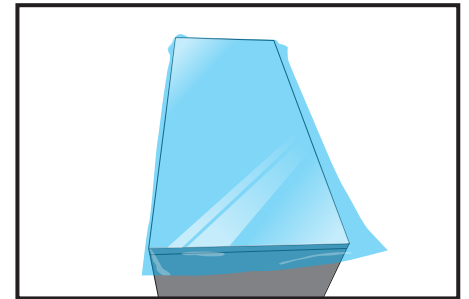

Figure 03
- ▶ Once the application to the horizontal surface is finished (FIG. 03), proceed with the cuts to wrap the table edges.